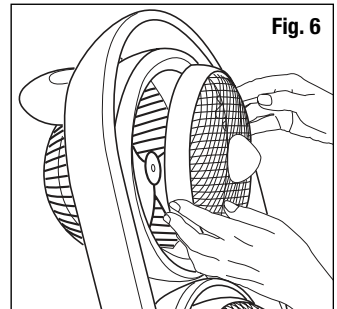

Fig. 6
- Pull the front grill away from the front housing. (Fig. 6)